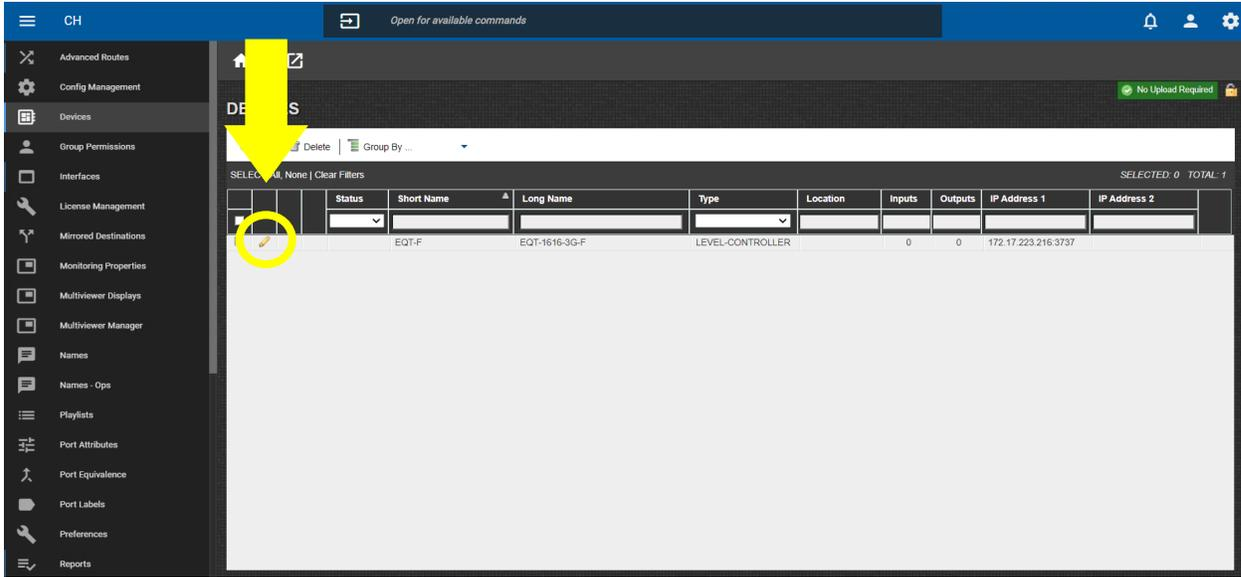

Figure 9-6 : MAGNUM - Edit Option
- Click the icon indicated in Figure 9-6 to edit and include the device’s information for proper control.